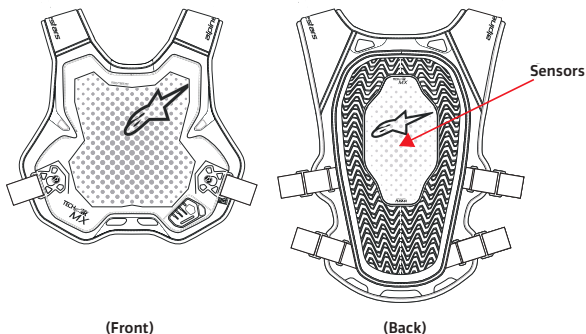

Figure 2 – Sensors Location
The System consists of an Airbag Control Unit (6) with built-in sensors (Figure 2). The cluster of sensors of the Airbag Control Unit (6) consists of 1 tri-axial accelerometer and 1 tri-axial gyroscope positioned inside the Back Protector (4). These sensors monitor the User's body for shocks or unexpected movements. In the event the User's body is subject to a high and/or sudden amount of energy, the System will deploy. This may occur when the motorcycle is involved in an accident, such as when the motorcycle collides with an obstacle, when the rider loses control or when the rider falls off the motorcycle.